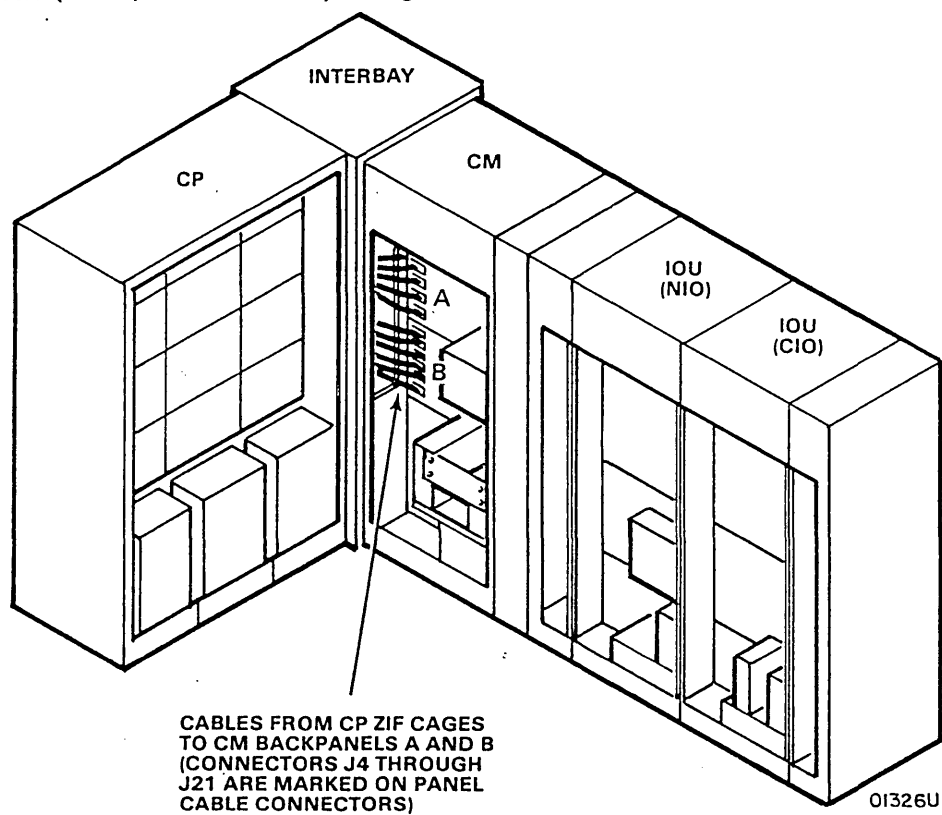

Figure 4-7. CP-0 CMC to CM Cable Connections
- ___ 4. Route cables for CM backpanel B through cabinet opening (figure 4-7). Route only enough of cables to reach backpanel.